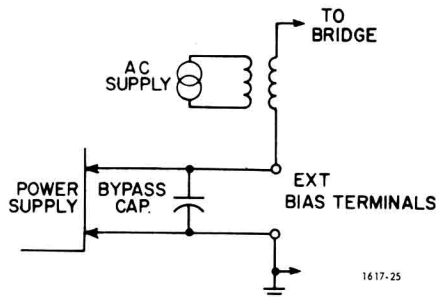

Figure 4-5. Connection of the external bias supply.
- To preserve the sensitivity of the bridge, the effective ac impedance of the supply has to be very low, and this is ensured by placing a bypass capacitor as shown in Figure 4-5. This capacitor should be at least of the same order of magnitude as the unknown.